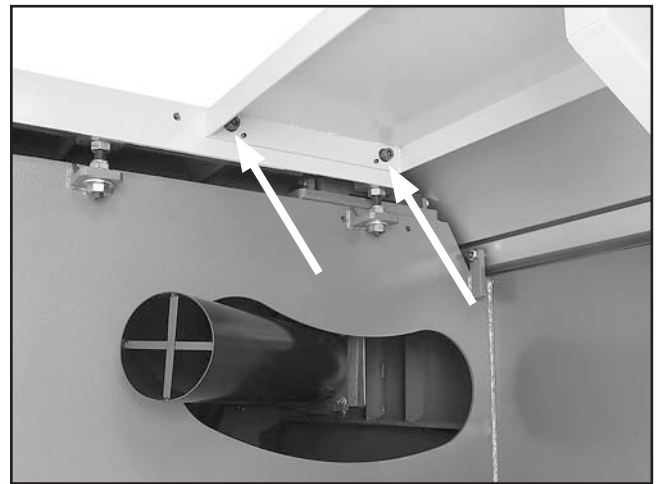

Figure 22. Small extension table attached.
5. Loosely attach the small extension table with two M10-1.5 x 20 cap screws, two 10mm lock washers, and two 10mm flat washers as shown in **Figure 22**.